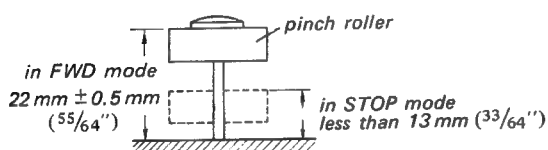

Fig. 11-9 Pinch roller height adjustment
- (7) Loosen the pinch roller height adjusting screw shown in Fig. 12-1 and adjust by moving the shaft upwards or downwards to obtain the values specified in Fig. 11-9.